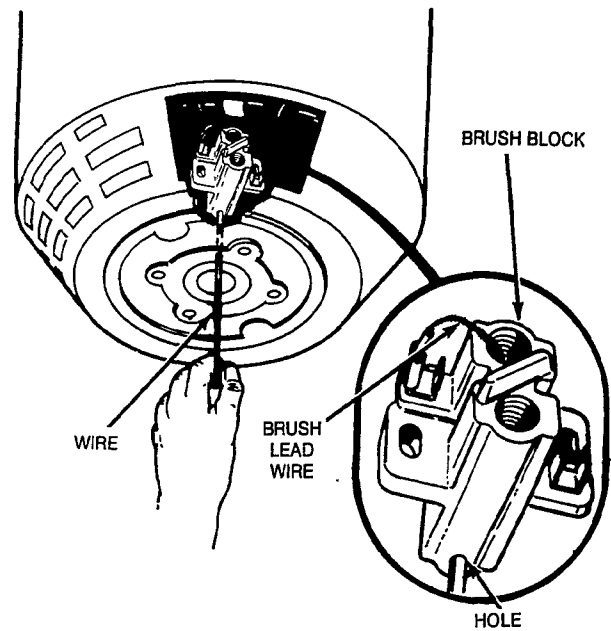

FIGURE 8-6. BRUSH BLOCK ASSEMBLY
7. Pull each brush lead wire outward from the holder and at the same time insert a piece of stiff wire into the small hole in the end of the stator housing; see Figure 8-6. Carefully guide the wire through the brush block and then release each brush. Verify that each brush is held off the slip rings by the holding wire.
2. Install the brush block assembly into the stator housing. Lift the brush wires and install brush holding wire into housing. The wire holds the brushes off the slip rings during assembly. See Figure 8-6.